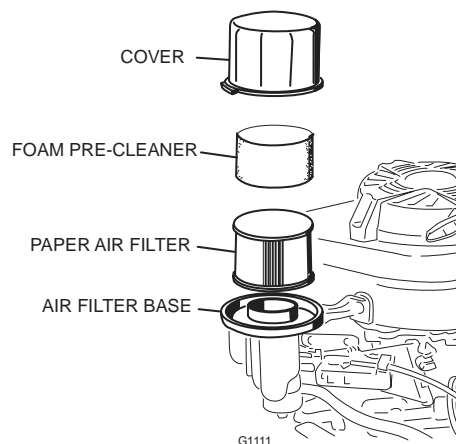

Figure 16
5. Remove the foam pre-cleaner and wash it with a mild detergent and water, then blot it dry (Fig 16).